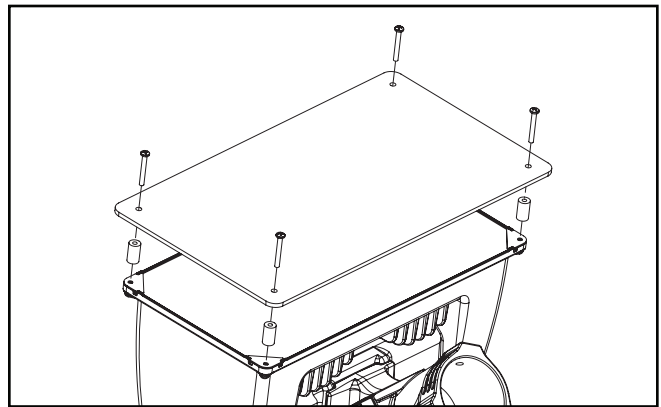

Figure 7.
### Vandal Shield (Figure 7.)
1. Loosen and remove the existing (4) 10-24 Philips head screws on the face of the fixture.
2. Align (4) 7/8" spacers with existing holes.
3. Use (4) 10-24 x 1-1/2" screws to secure vandal shield on top of fixture. (Figure 7.)